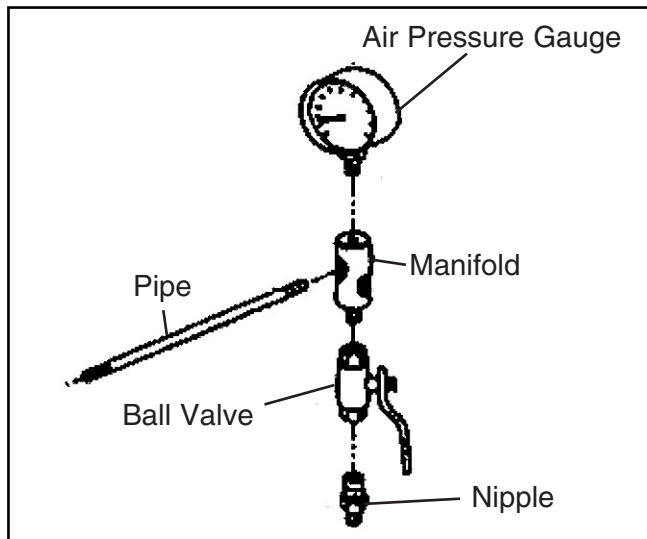

Figure 5. Gauge/air supply control installation.
6. Attach to the manifold one of the remaining ball valves and $\frac{3}{8}$ " hose nipple, the red hose, pressure gauge, and the pipe as shown in **Figure 5**.